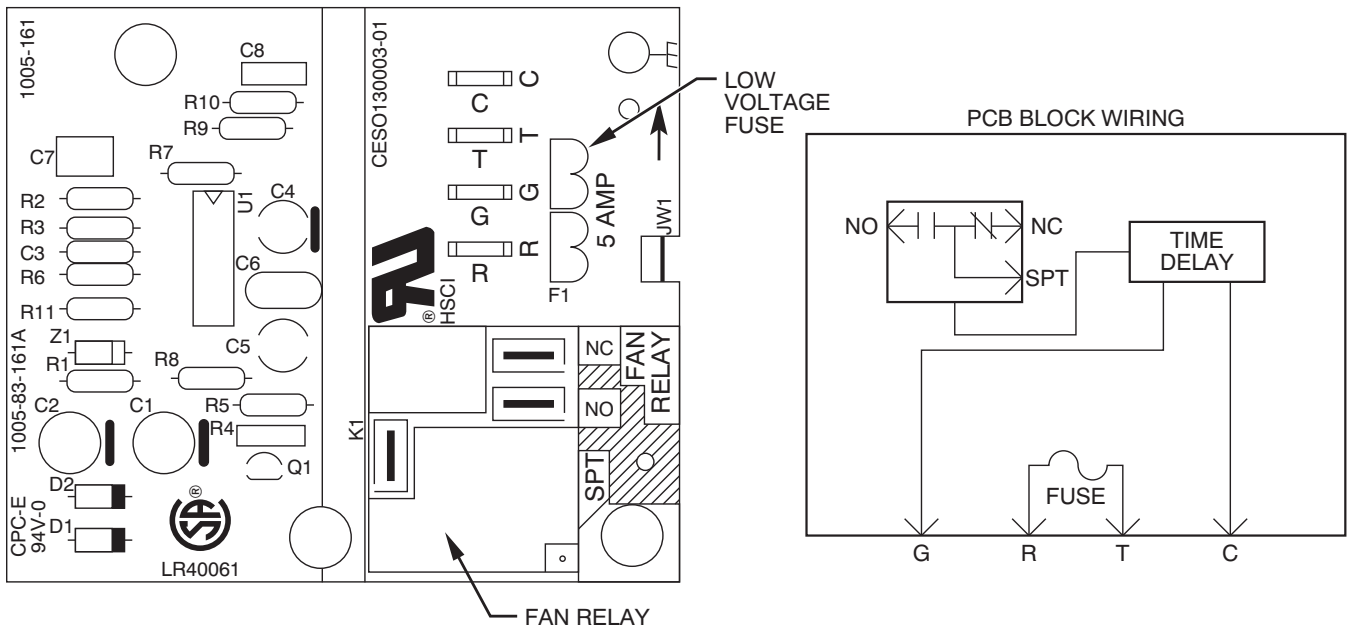

Fig. 1 – Fan Coil Printed Circuit Board (CES013003-00, 01 / HK61EA002)
Layout of the actual PCB is depicted in Fig. 1 and Fig. 2.
Use wiring schematics shown in Fig. 1, and Fig. 2 as a guide in troubleshooting PCB unless otherwise noted.
2. Check output voltage of transformer secondary side R (red) and C (brown). Be sure transformer output is between 18Vac and 30Vac. If transformer output is incorrect and transformer is receiving correct input voltage (208V or 230V), then transformer needs to be replaced with recommended transformer. If no problem exists with transformer secondary, proceed to items 3 and 4.
3. Check low-voltage fuse shown in Fig. 1 or Fig. 2. If fuse is blown, replace it with an identical 5-amp fuse. The transformer cannot supply power to board with fuse blown or loose. If fuse blows when unit has power applied to it, the system most likely has one of the following problems:
1. Check wiring of sequencers/relays as shown in Fig. 1 and Fig. 2. Be sure transformer is not shorting out because thermostat wires are miswired.
2. Check wiring of relays as shown in Fig. 1 And Fig. 2. Be sure low-voltage and high-voltage wiring is correct.